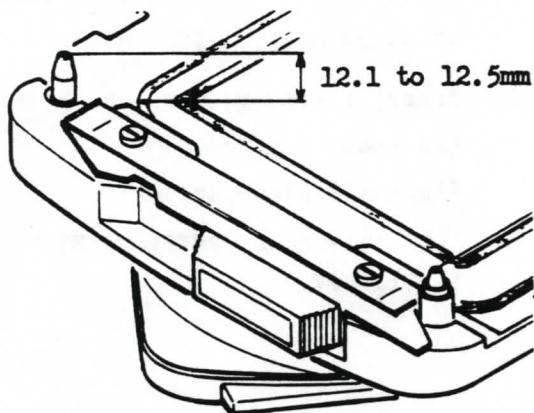

Fig .95
- (1) The length from the surface of polished guide rail of Revolving adapter to the top of Coupling pin (aRS3151) is kept 12.1 to 12.5mm. (Fig. 95)